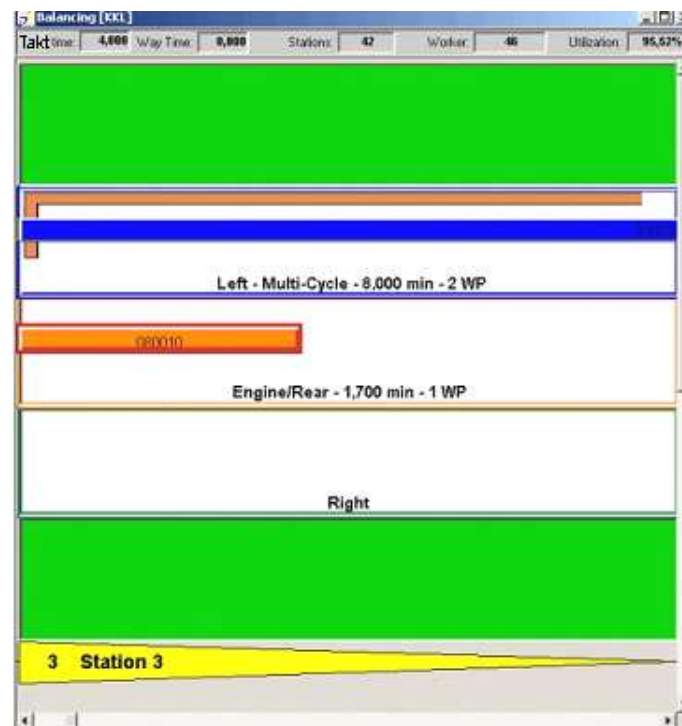
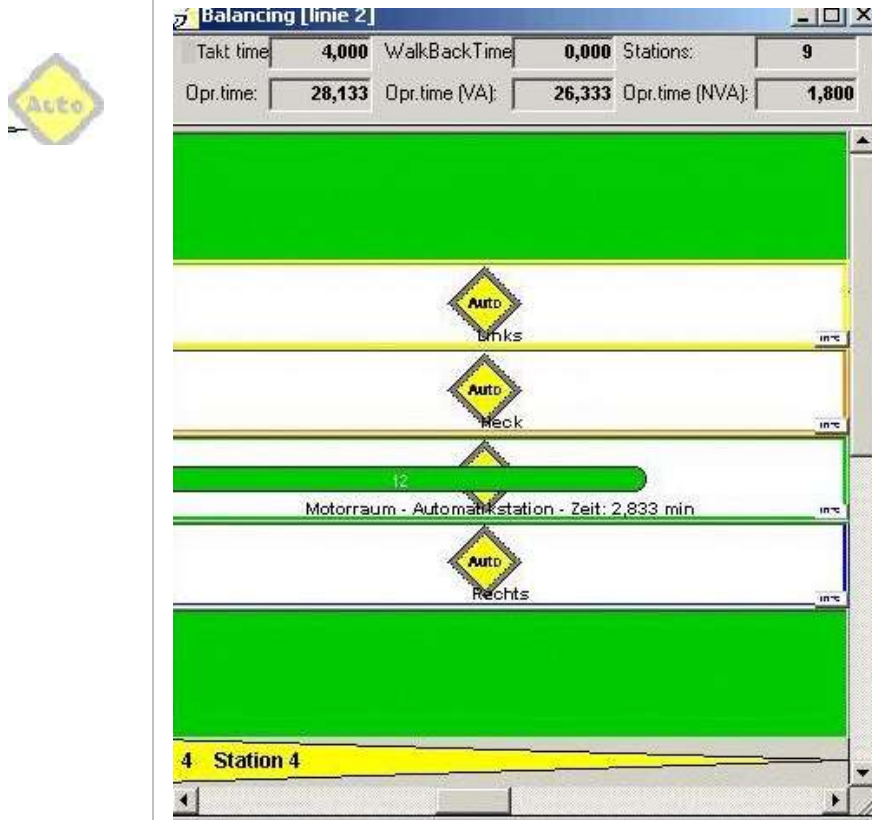

Figure 61: Example – Station Balancing Conveyor Display
Figure 62: Example – Automatic Station Display
All calculated stations, work positions, and assigned processes will be displayed in the Balancing view. Use this view to perform manual balancing. This means that you can assign processes to new work positions using drag and drop in this view. (Please refer to the Working with Automatic Line Balancing). There are two different kinds of stations: manual stations (Please refer to the Figure 61) and automatic stations (Please refer to the Figure 62). The Balancing view can be displayed either with or without the Material Area. Please refer to the Balancing Work Areas.
- The processes are displayed by the process number in the Balancing view. Processes can either be displayed by a rectangle (against a grey background as shown in the example) or by a rhomb. The display size depends on the duration of each process. The longer the process duration, the greater is the size of the process display. Processes with a station linkage are displayed by a rhomb. The process station linkage may refer to one or several stations. *Please refer to the Displaying Processes and Figure 61.*
Thus, the first station at conveyor 1 would be numbered **station number 1** whereas the first station at conveyor 2, according to the stations calculated for conveyor 1, would be numbered station number 10. As a conclusion, the last station of conveyor 1 would be numbered station number 9. Please refer to the Figure 62 and Figure 67.